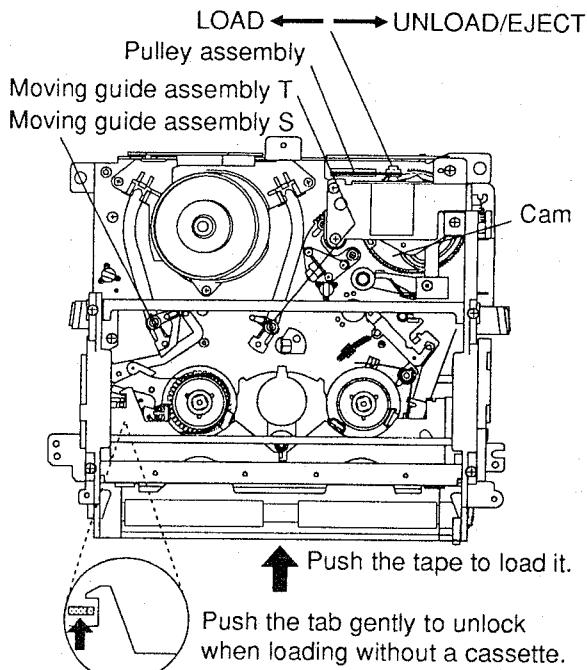
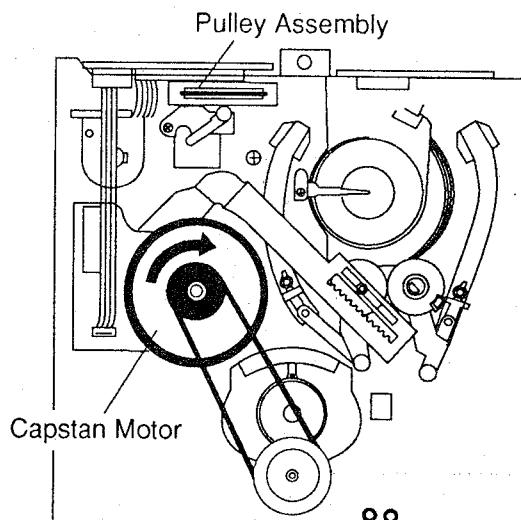

Fig. M1
Fig. M2
4. Turn the Pulley Assembly in the appropriate direction shown in Fig. M1 until the cassette tape is fully loaded. By turning the Pulley Assembly, you are turning the cam indicated in this figure. However, movement of the cam will be very slow. Allow a minute or two to complete this task.
3. Turn the Pulley Assembly in the appropriate direction shown in Fig. M1 to unload the cassette tape. When turning the Pulley Assembly, please be aware that this is a long process and the cassette will not start getting unloaded instantaneously.
Within this long process, before the cassette actually starts getting unloaded, there is a time period during which the moving guide assemblies slide back to their original positions shown in Fig. M1. However, the tape will be left wound around the cylinder. To put the tape back into the cassette, gently turn the Capstan Motor in the direction shown in Fig. M2. Make sure that the tape is completely placed back in the cassette before the cassette starts getting unloaded. Otherwise the tape hanging out will be caught and damaged by the lid of the cassette when it closes.
By turning the Pulley Assembly, you are turning the cam indicated in Fig. M1. As stated, movement of the cam will be very slow. Allow a minute or two to complete this task.
3. Turn the Pulley Assembly in the appropriate direction shown in Fig. M1 until the Cassette Holder comes to the tape-loaded position. Allow a minute or two to complete this task.